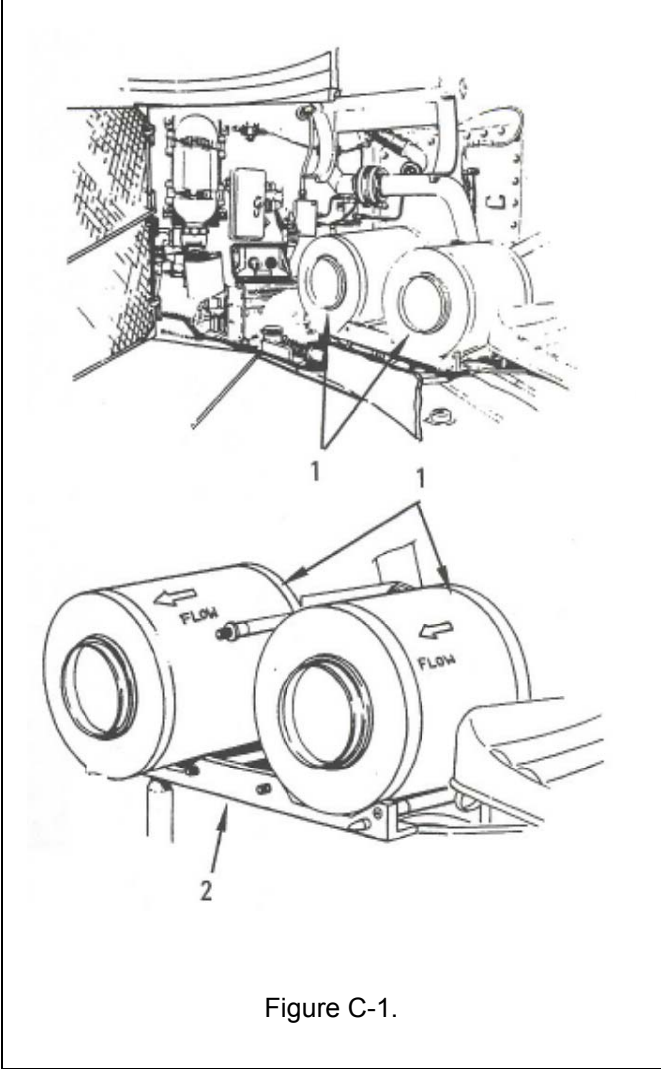

Figure C-1.
1. Remove two filters by sliding each filter (1) slightly from support (2) (see figure C-1).